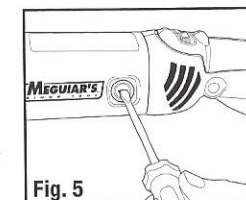

Fig. 5
1. Remove side-port cap with **medium flat head screw driver (Fig. 5)**. Turn counter-clock-wise.